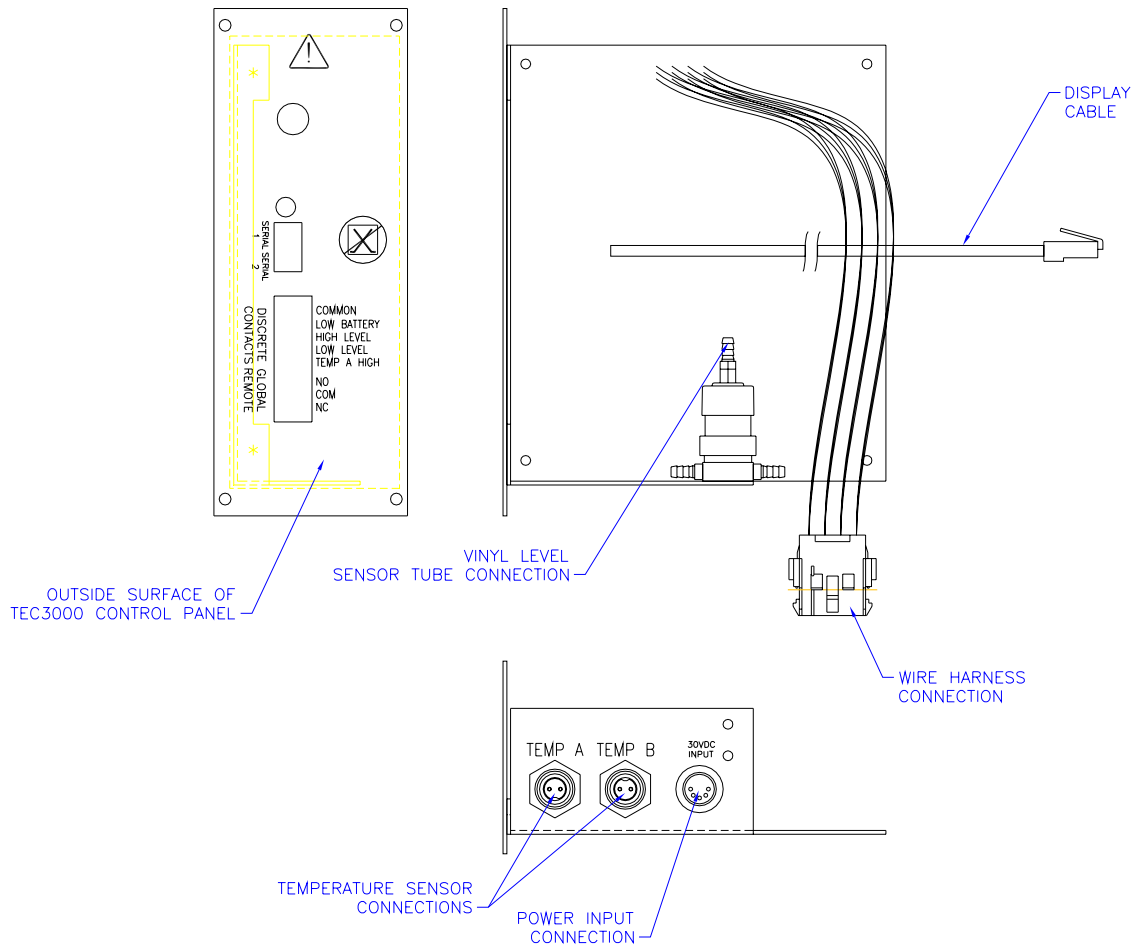

Figure 1, TEC3000 CONTROL PANEL DETAILS
23. Connect the level sensor tube to the hose barb on the valve of the new panel. Reference Figure 1.
24. Connect the 30VDC input cable from the power supply to the receptacle on the bottom of the new rear control panel. Reference Figure 1. This cable will have to pass out of the cabinet through the bottom.